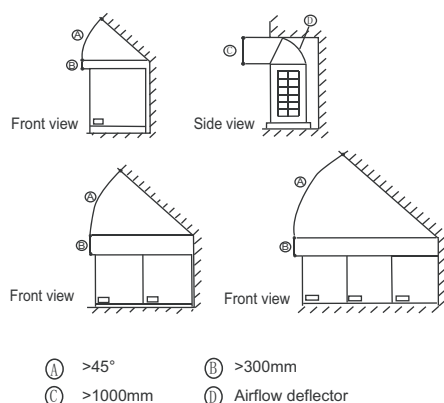

Fig.4-17
- In case any obstacles exist above the outdoor unit, refer to Fig.4-17.